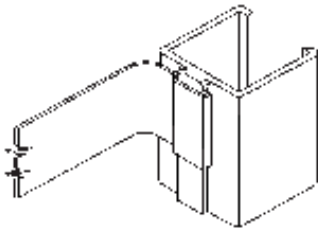

Figure 21
1. Ardco shelving is secured to the frames by use of brackets that are preinstalled on Ardco frames and post clips that are on the front posts. Refer to Figure 21 .
2. Place a front post at the end of the Ardco frame. Slide the post clips down the post into the post brackets. Refer to Figure 21 .